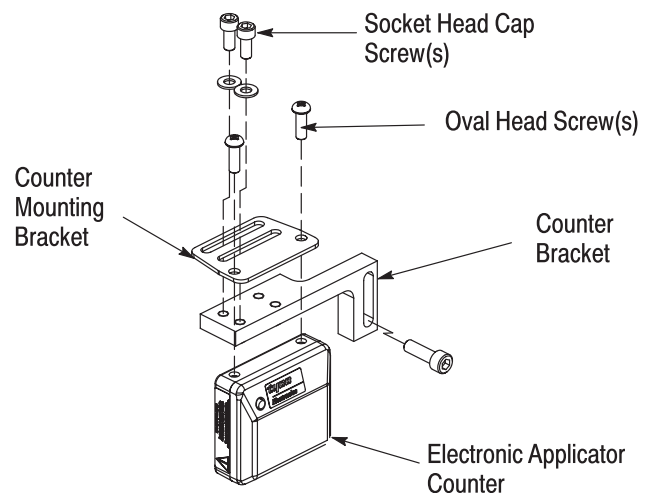

Figure 9
6. Assemble the counter to the counter mounting bracket with the supplied oval head screws. See Figure 9.
7. Loosely install (finger tight) the counter mounting bracket to the counter bracket using the supplied washers and socket head cap screws. See Figure 9.